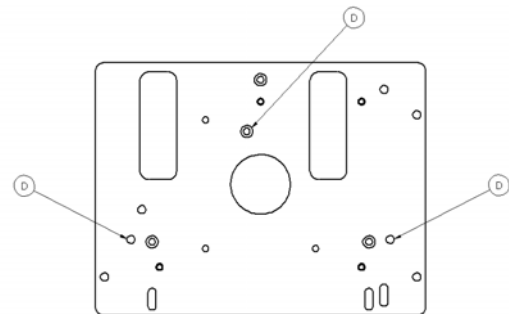

Figure 4. Group D Hole Alignment
4. Using Figure 4, find the proper mounting holes in SLB-9000 for your projector.